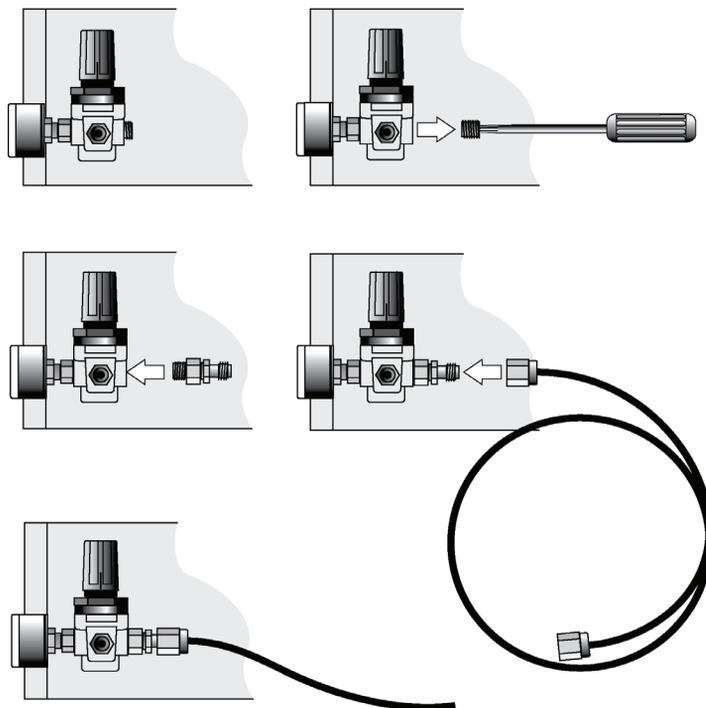

Figure 3 Gas Tube Connection from Pressure Regulator to SPME Fiber Conditioning Station
- 1 Remove the blind-plug at the gas regulator and connect the corresponding reducing union supplied with the installation kit. The other side of the gas tube is connected with a 1/8 inch Swagelok nut to the Fiber Conditioning Station. The installation of this second gas line is displayed in Figure 3 on page 21.